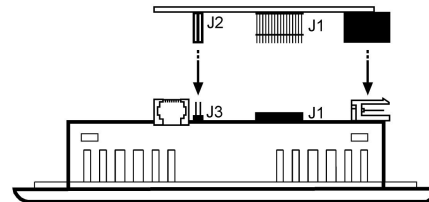

Figure 3. Installing the Module
6. Install the module by placing the module's connectors onto the controller card as shown in Figure 3. In order to avoid bending the connector pins, exercise appropriate caution. Make sure that the connection is secure.